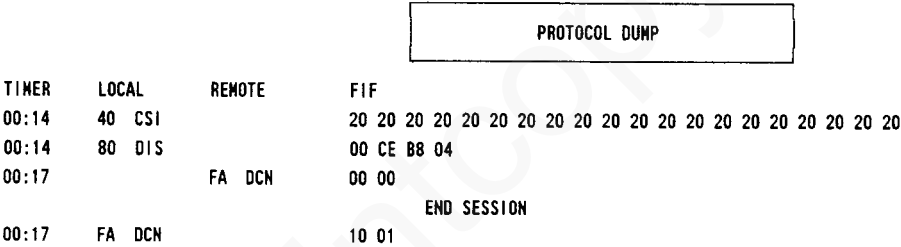

Fig. 5-1
c) Make sure that there is paper in the ASF and then press ◊: the data shown in fig. 5-1 will be printed and then the facsimile machine will return to standby mode.	<div>PRINT PROT.DUMP ◊/⊗</div>